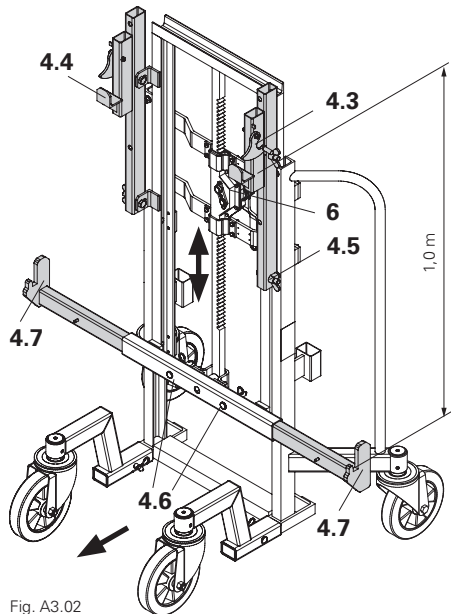

Fig. A3.02
3. Pre-adjust connection height with the winch (6).
- (Fig. A3.02)
(Fig. A3.02)